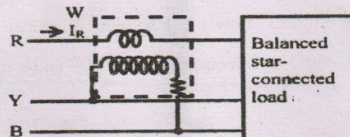

Fig. 7
- (b) Calculate the readings of the wattmeter (W) connected as shown in Fig 7. The load is the balanced star-connected one, with impedance of per phase fed from a three-phase, 400 V, balanced supply, with the phase sequence as R-Y-B.